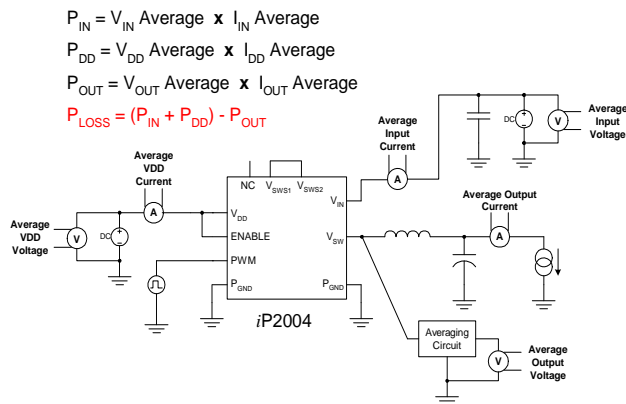

Figure 9 Power Loss Test Circuit
3. Measurement made with six 10 μF (TDK C3225X5R1C106KT or equivalent) ceramic capacitors across V_{IN} to P_{GND} pins (see Figure 9).